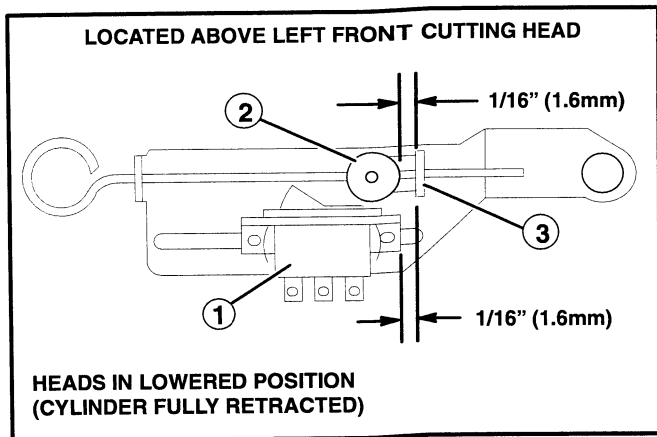

Figure 23
Cutting head lift and lower timing are controlled by the sequence control and normal open limit switches. The sequence control switch, located above the left front cutting head, (See Fig. 23) allows hydraulic oil to flow to the rear lift cylinder. This sets the proper timing for the lifting and lowering between the front heads and the rear head. The limit switches, located above the rear cutting head, (See Fig. 23) shuts the oil flow off when the rear cylinder is fully extended or retracted.
1. With the cutting heads lowered and cylinders fully retracted, check the dimension of  $1/16"$  (1.6mm) between the cam and ear and the same dimension between the switch bracket and ear (See Fig. 23).